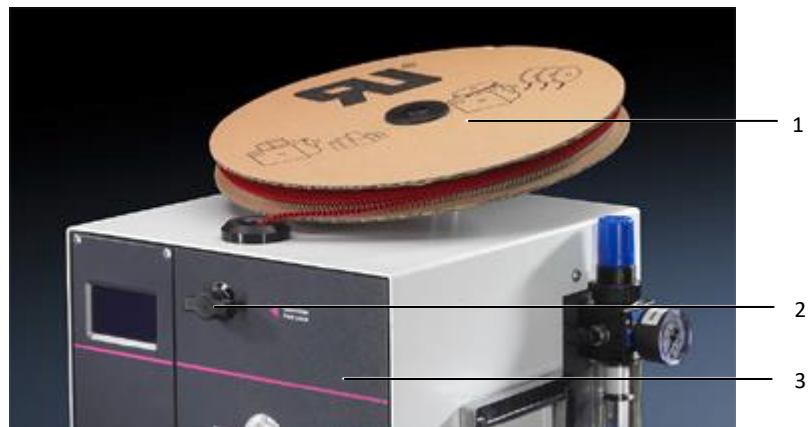

Fig. 4: Wire end ferrule reel
- Place the wire end ferrule reel (fig. 4, item 1) so that clockwise unrolling is possible.
- Turn the latch (fig. 4, item 2) on the front panel (fig. 4, item 3) so it opens.